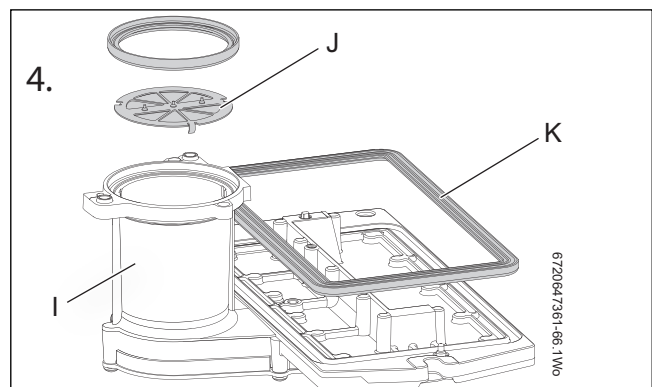

Fig. 81 Diaphragm
- ▶ Remove the burner (H).
- ▶ Ensure that a new seal (K) is used, refer to fig. 81.